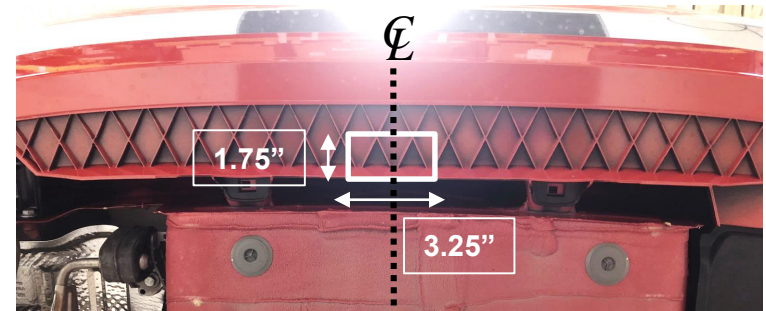

Figure 2
- Trim bumper fascia** – locate the center of the fascia and trim the fascia as shown in **Figure 2**.
7. Trim bumper fascia – locate the center of the fascia and trim the fascia as shown in **Figure 2**.